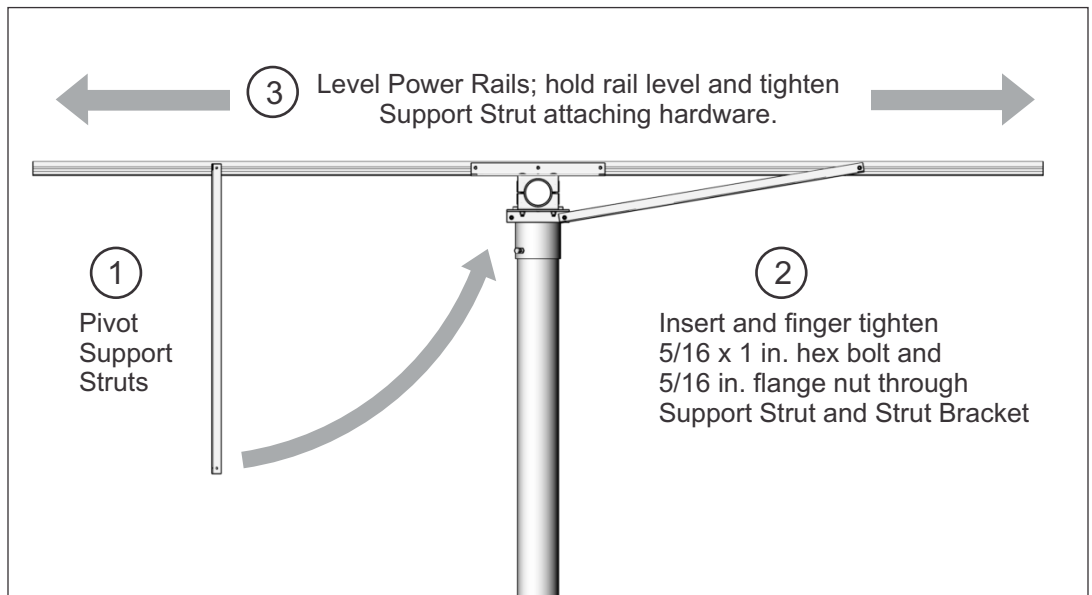

Figure 5-3: Leveling Power Rail and Securing Support Strut to Strut Bracket
- C. Attach Support Struts to Strut Bracket by pivoting the free-end upward to align mounting hole with Strut Bracket. Insert and finger tighten 5/16 x 1 inch hex bolt with 5/16 inch flange nut. Level Power Rail before tightening. (See Figure 5-3)